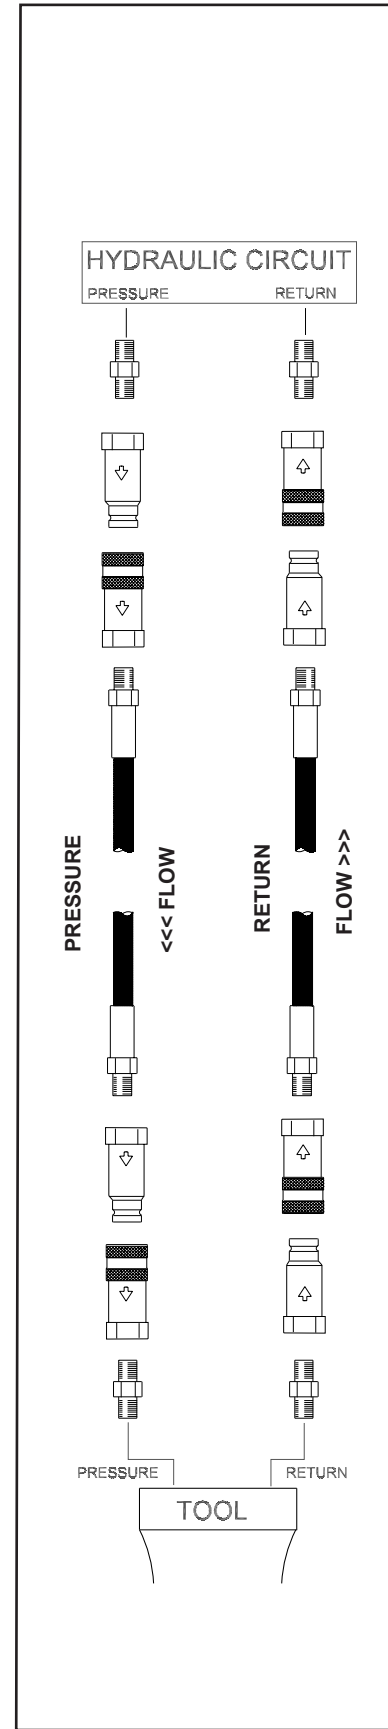

Figure 1. Typical Hose Connections
- Accumulator Tester (see figure 1 below)